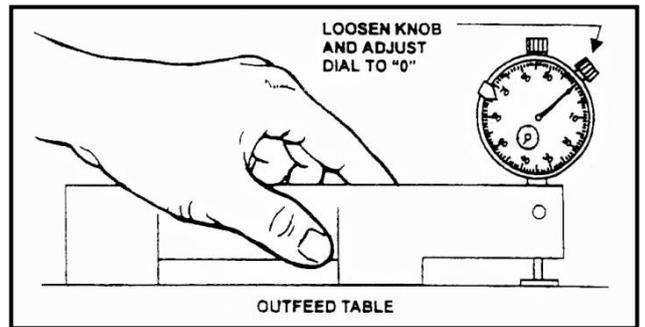
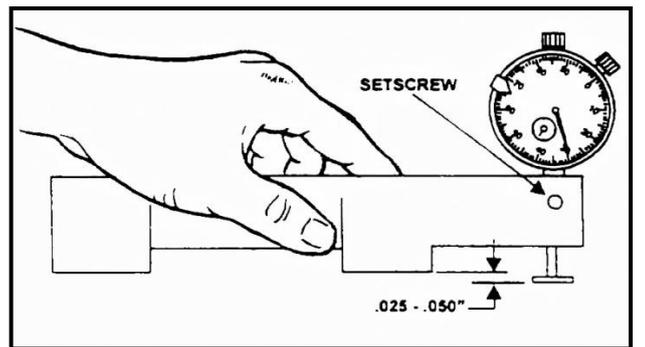
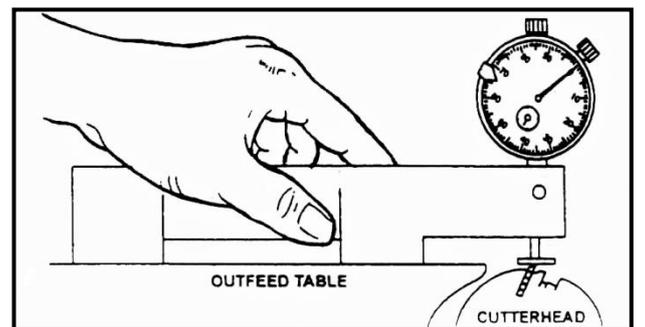

Fig. 7a
Fig. 7b
Fig. 7c
5. A knife-setting bar or steel straight edge can now be used to set the knives. However, for more precise adjustment, a Quick-Set Knife Gauge is recommended. Place the gauge on the outfeed table and "0" the indicator as shown in Fig. 7a.
indicator should read between .025 and .050 as shown in Fig. 7b. If the indicator reads outside of this range, loosen the setscrew in the side of the gauge and adjust the indicator so that it will read within the range above. Zero the indicator as shown in Fig. 7a.
7. Repeat this process until indicator reads within the .025 to .050 range. Always zero the indicator (as shown Fig. 7a) before each use. Now place it on the outfeed table to the rear of the cutterhead with the flat indicator point over the cutterhead, Fig. 7c.